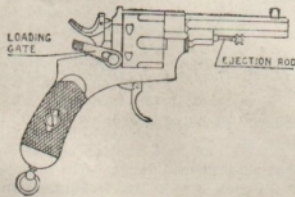

FIG. 1.—10·35 MM. REVOLVER 89
2. 10-35 mm. Revolver, Mod. 89--Bodeo. (See Fig. 1)